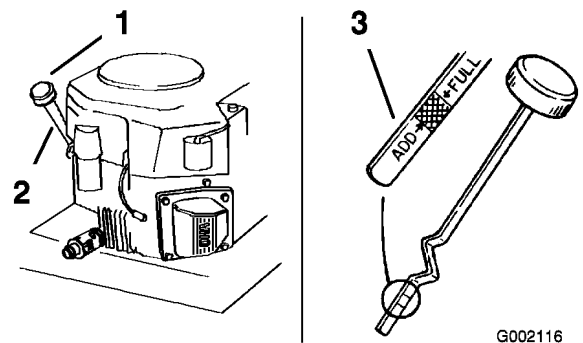

Figure 34
4. Clean around the oil dipstick (Figure 34) so that dirt cannot fall into the filler hole and damage the engine.
5. Unscrew the oil dipstick and wipe the end clean (Figure 34).
6. Slide the oil dipstick fully into the filler tube, but do not thread onto tube (Figure 34).
7. Slowly pour approximately 80% of the specified oil into the filler tube (Figure 34).